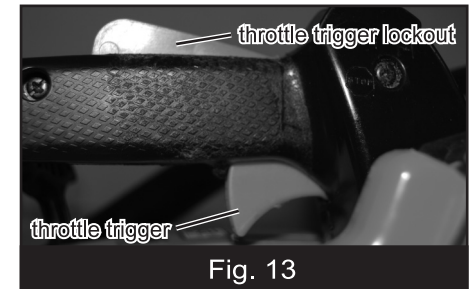

Fig. 13
- CAUTION:** Clutch engages and chain will rotate when engine is started with throttle trigger squeezed. After engine starts release throttle trigger to idle position. (Fig. 13)